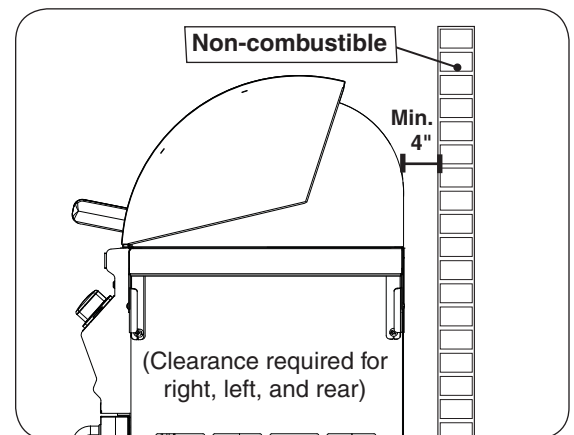

Fig. 9-2 Clearance 'B' Diagram
**B. Clearance between grill and strictly non-combustible wall (i.e. brick wall, see Fig. 9-2)**